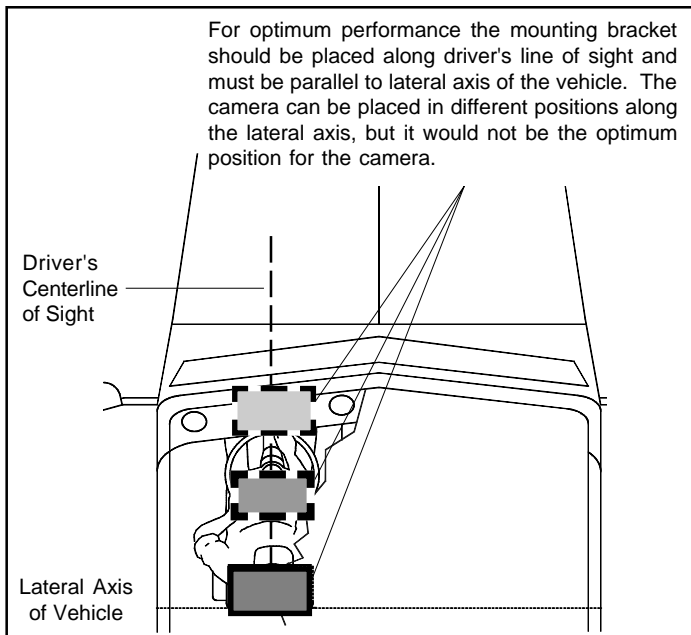

Figure 12 Mounting bracket location with respect to lateral axis of vehicle and driver's centerline of sight.
5. Tape down the Camera Mounting Bracket Template. For best results, the bracket should be mounted anywhere along the driver's centerline of sight. See Figure 12.
6. Verify that the template is parallel to the lateral axis of the vehicle. This ensures that the bracket, when mounted, will face squarely forward. See Figure 12.